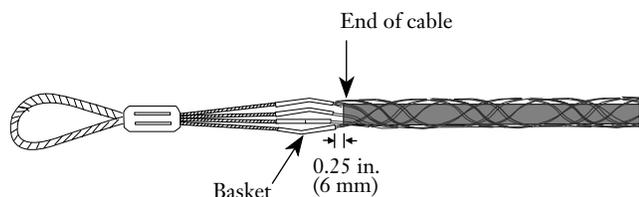

Figure 5
**4.6** Position the cable in the grip so that the end of the cable is 0.25 inches (6 mm) behind the grip’s basket (Figure 5).